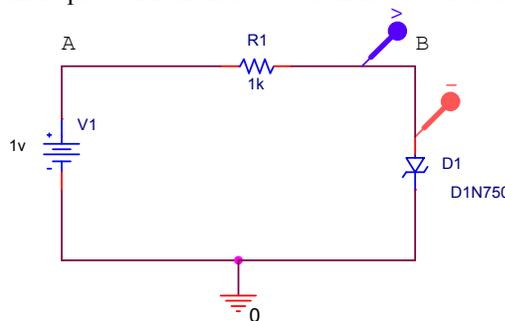

Figure D-3.
- Wire the circuit in Figure D-3 in PSpice. The Zener diode is D1N750. It is in the “EVAL” PSpice library.